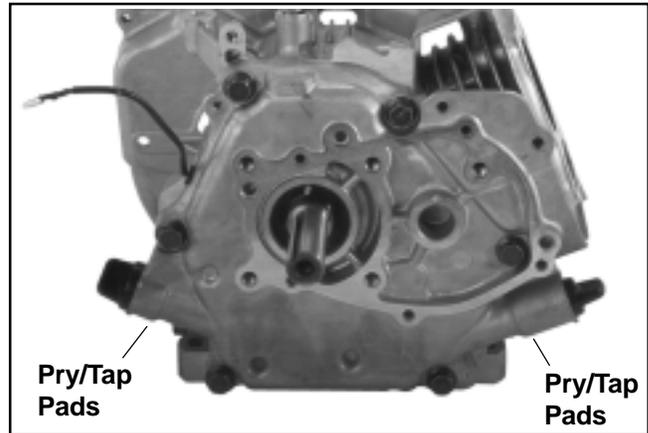

**Figure 9-73. Removing Dowel Pins and Gasket.**
- Remove the dowel pins and gasket. Clean the gasket surfaces with a cleaning solvent or aerosol type gasket remover. **Do not nick or scrape the sealing surfaces.** See Figure 9-73.